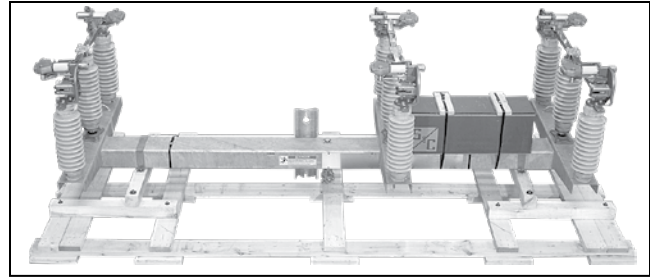

Figure 8. Remove the switch from its crate.
STEP 5. Remove the switch from its crate. See Figure 8. Protect the bearings at the base of each pole unit from contamination by dirt, mud, oil, etc. If necessary, use blocks to keep the bottom of the switch clear of the ground.